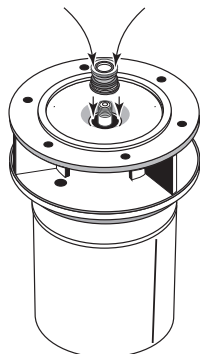

Figure 21: Press in Seal
3. Press seat into cavity firmly and squarely, with finger pressure (Figure 21). If seat will not locate properly, place cardboard washer over polished face of seat and use piece of 3/4" standard pipe for pressing purposes.